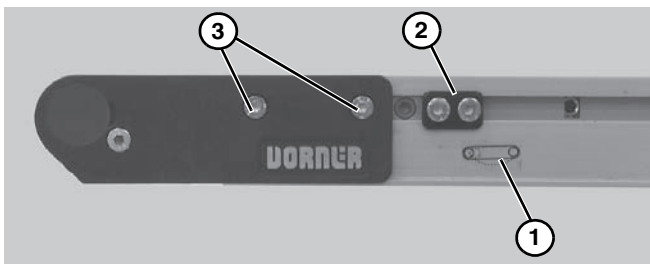

Figure 23
- On tension end of the conveyor, identified with a  label (**Figure 23, item 1**): On both sides of conveyor, loosen and move cam tracking assemblies (**Figure 23, item 2**) (if equipped) away from head plates, then loosen fastening screws (**Figure 23, item 3**) and push head plate assembly inward.